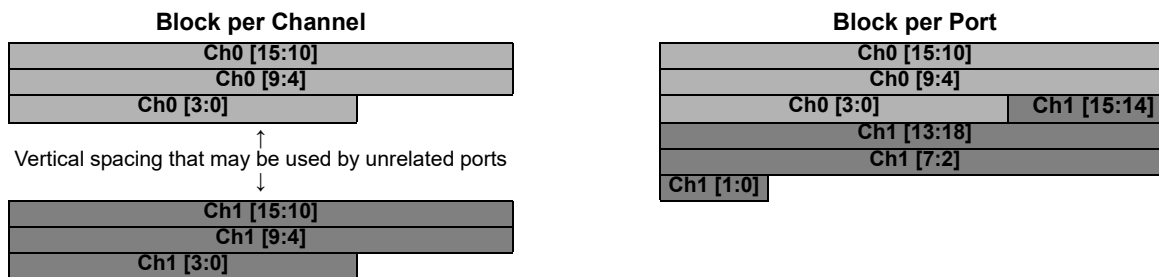

Figure 4-26. Block Packing Mode
- **Payload data block** refers to blocks of data within a frame, as controlled by **BLOCK_PACKING_MODE** (see p. 127) and shown in Fig. 4-26: